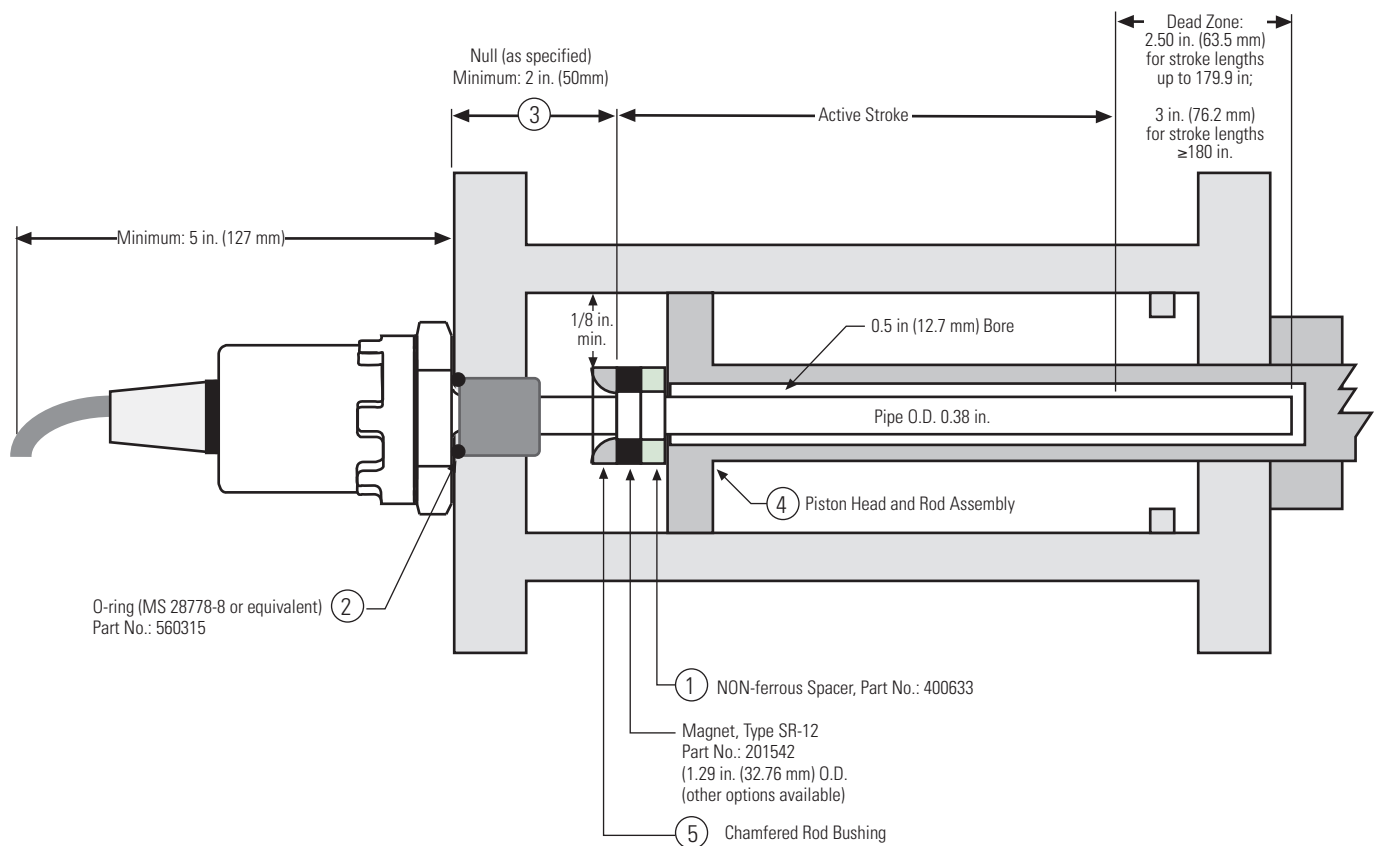

Figure 2-8
Figure 2-8 shows a typical cylinder installation. Review the following before attempting this type of installation.
- The piston head [4] shown in Figure 2-8 is typical. For some installations, depending on the clearances, it may be desired to countersink the magnet.